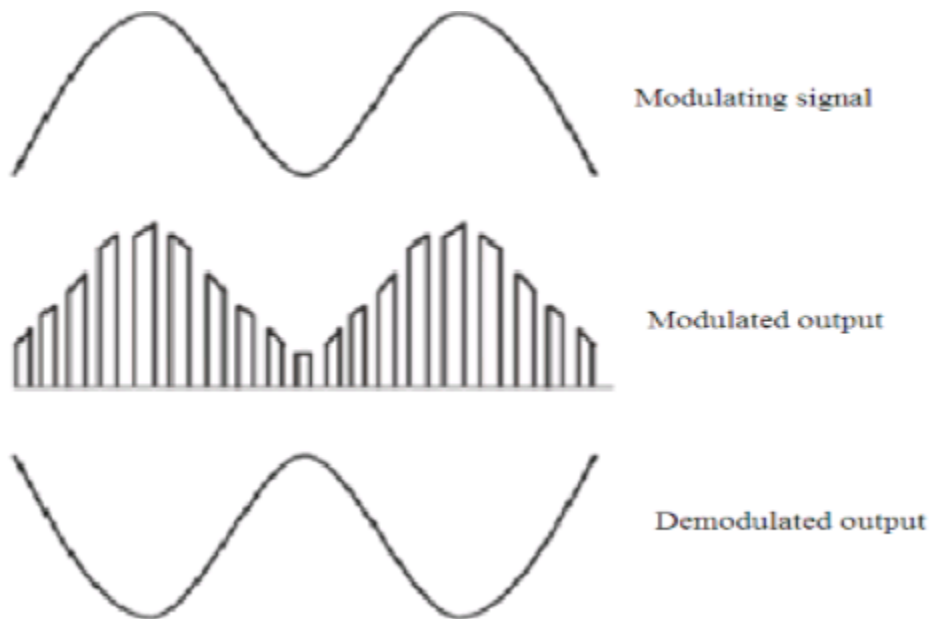

Fig4. Modulation and demodulation of PAM signal
- The Fig4 below shows the modulated and demodulated PAM signal.